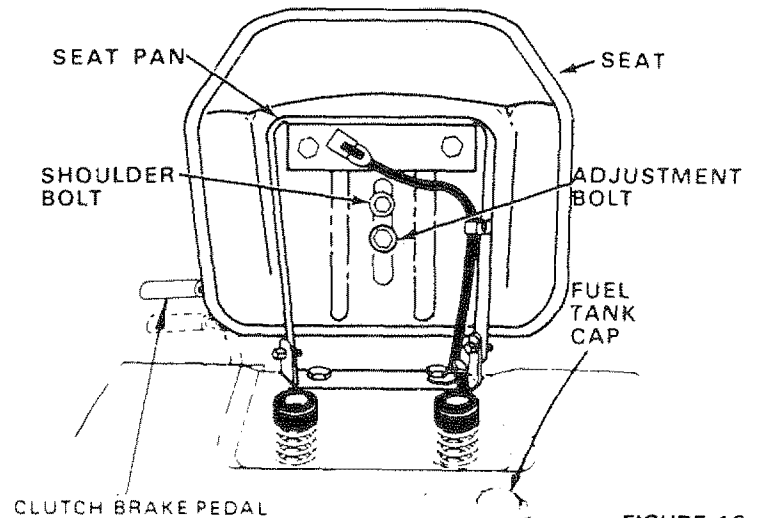

FIGURE 12
- Fill fuel tank (Fig. 12). Use fresh, clean, regular UNLEADED automotive gasoline (Use of leaded gasoline will increase carbon and lead oxide deposits and reduce valve life). Capacity is 3-1/2 gallons (13.24 litres).